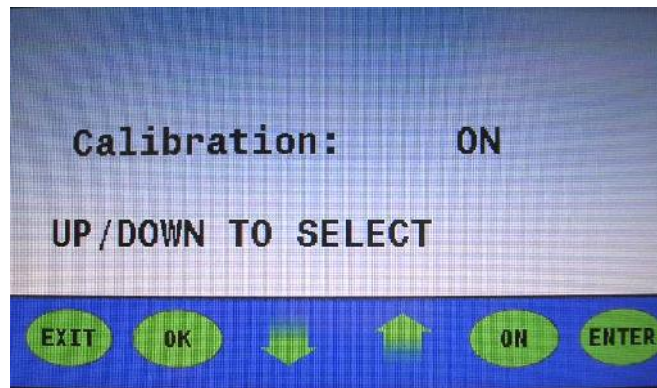

Figure 18
36. Press the up or down arrow to change "TABLE" to "ON". **(Figure 18)**